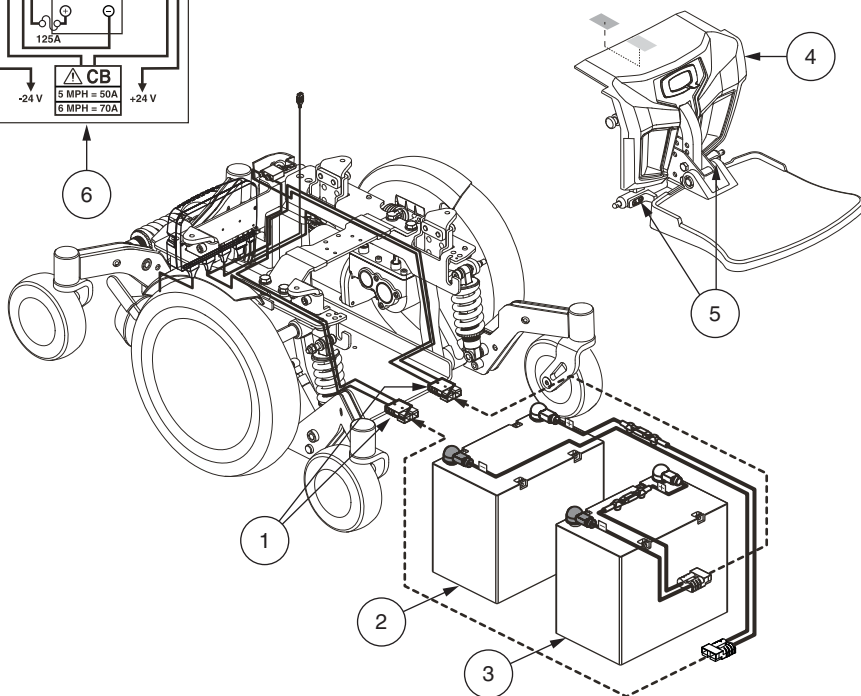

Figure 20. Battery Installation
3. Remove the front cover by squeezing the release handles (**see figure 20**) and lifting the foot platform bracket up and away from the power base.
7. Connect the battery harness to the new front battery according to the battery wiring diagram. **See figure 20.**
8. Connect the battery harness to the new rear battery according to the battery wiring diagram. **See figure 20.**